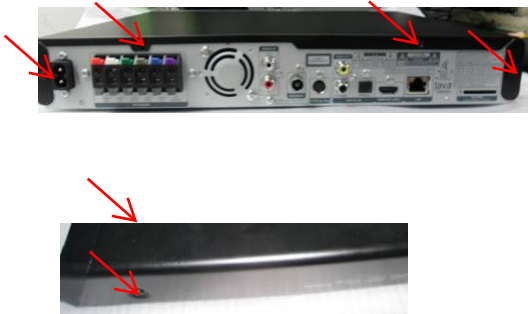

Figure 1
Step1: Remove 6 screws around the Top Cover, and then remove the Top Cover (Figure 1).